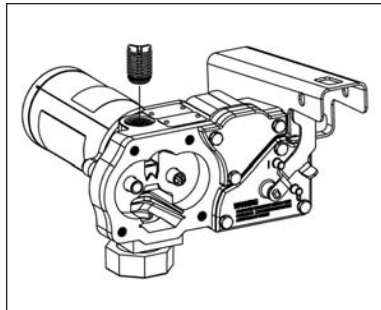

Figure 9
- c. From inside the housing, use a small screwdriver to push the poppet and spring through the top outlet port. (Figure 9)